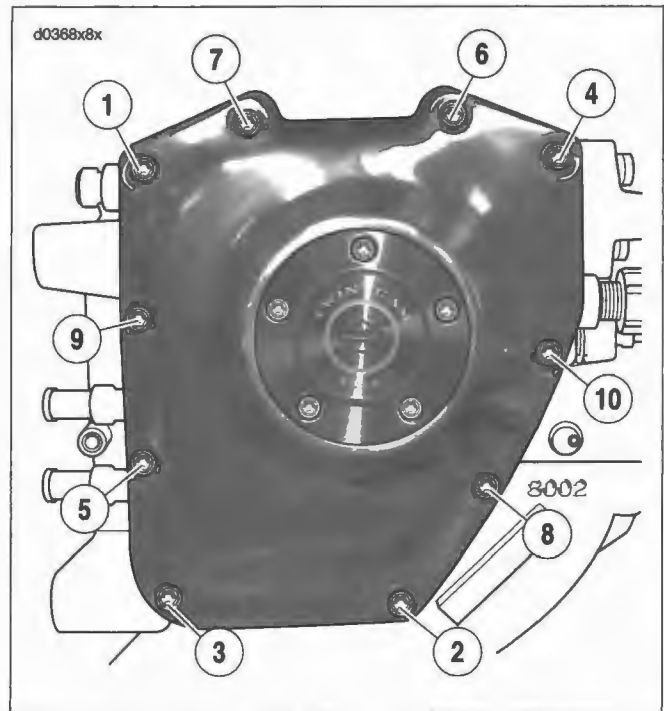

Figure 3-49. Cam Cover Screws
2. See Figure 3-49. Remove the ten allen head socket screws with captive washers to release the cam cover. Remove and discard the cam cover gasket.